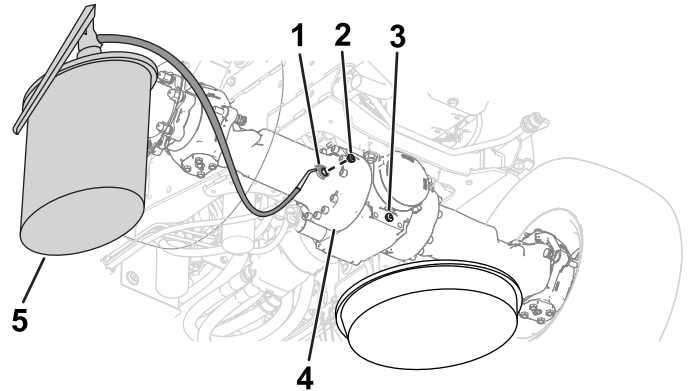
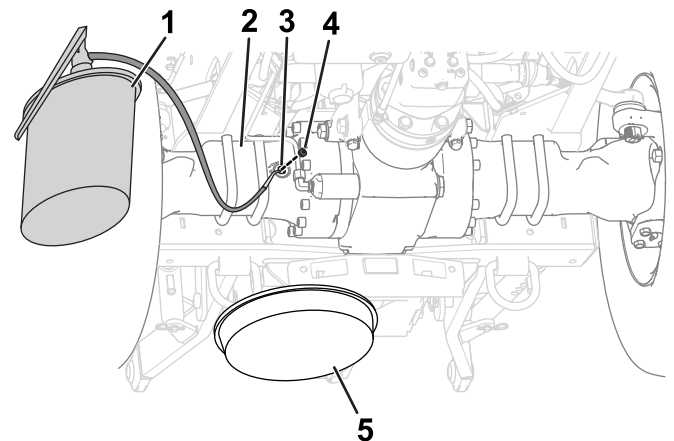

Figure 99
Figure 100
5. Install the drain plugs into the drain ports at the differential housings (Figure 99 and Figure 100).
6. Fill the axles with the specified oil through the sight port until the oil is level with the threads at the bottom of the port (Figure 99 and Figure 100).
- Install the fill plugs into the sight ports of the differential housings for the axles (Figure 99 and Figure 100).